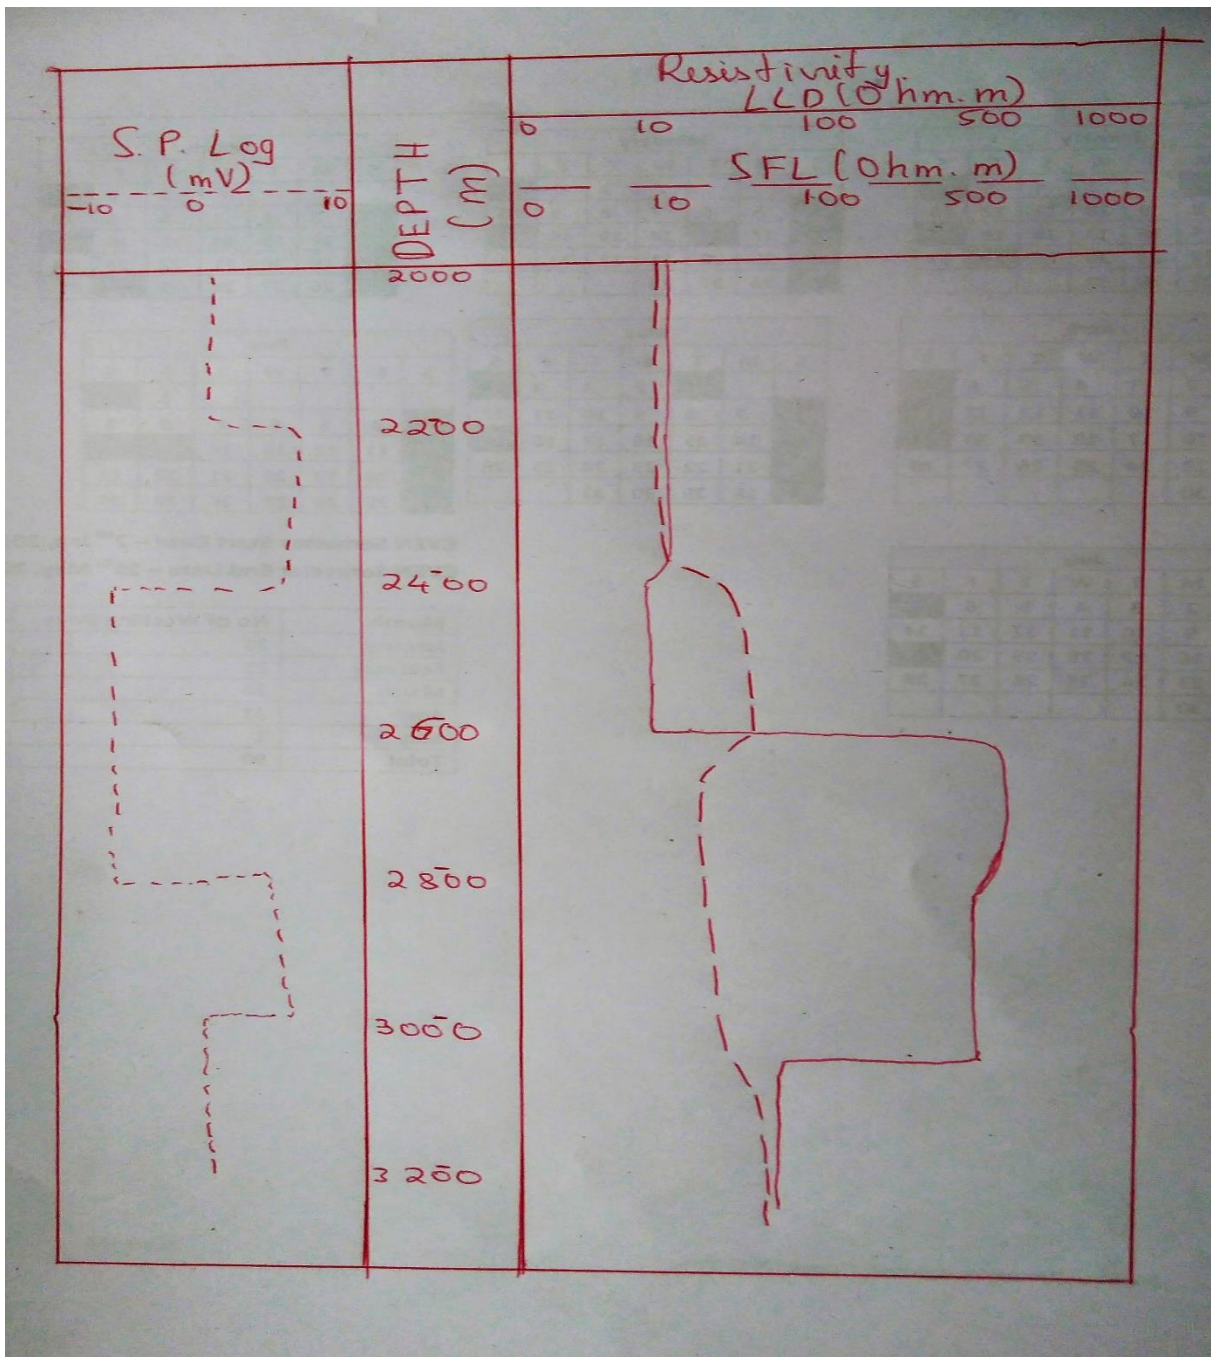

Figure 1
5. Analyze the well log graph given in figure 1 and write its interpretation for depths from 2200 m to 2800 m.